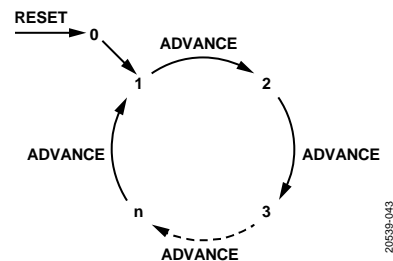

Figure 42. State Machine Position Loop
Figure 42 shows how the state machine pointer moves through a loop. In this diagram,  $n$  is the total number of states inside the loop. Because the sequencer depth bit field is 0 indexed,  $n$  is equal to one more than the value in the sequencer depth bit field.
- Bits 0 to Bit 3: `MULT_STATES`. These bits set the number of states in the loop (see Figure 42).
- Bit 0 to Bit 3: RX\_STATES. These bits set the number of states in the loop (see Figure 42).